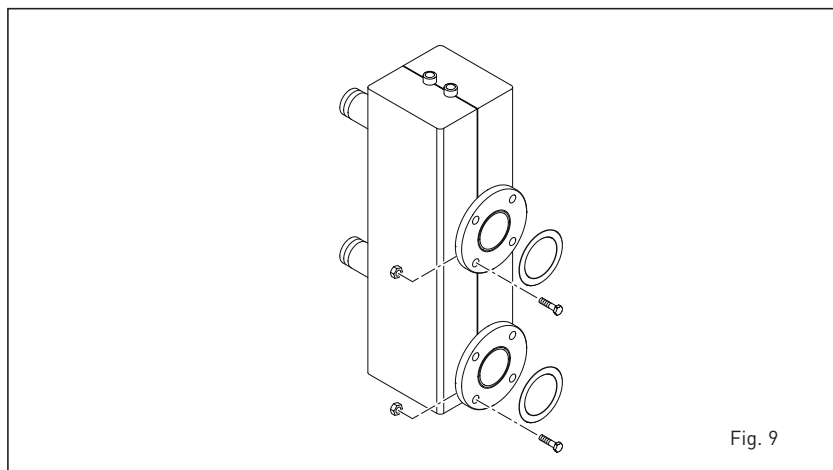

Fig. 9
2.10 HYDRAULIC SEPARATOR (fig. 9)
The hydraulic separator is supplied separately in a kit code 8101550 complete with gaskets, nuts and fastening screws (figure 9). The compensator is required in the assembly.